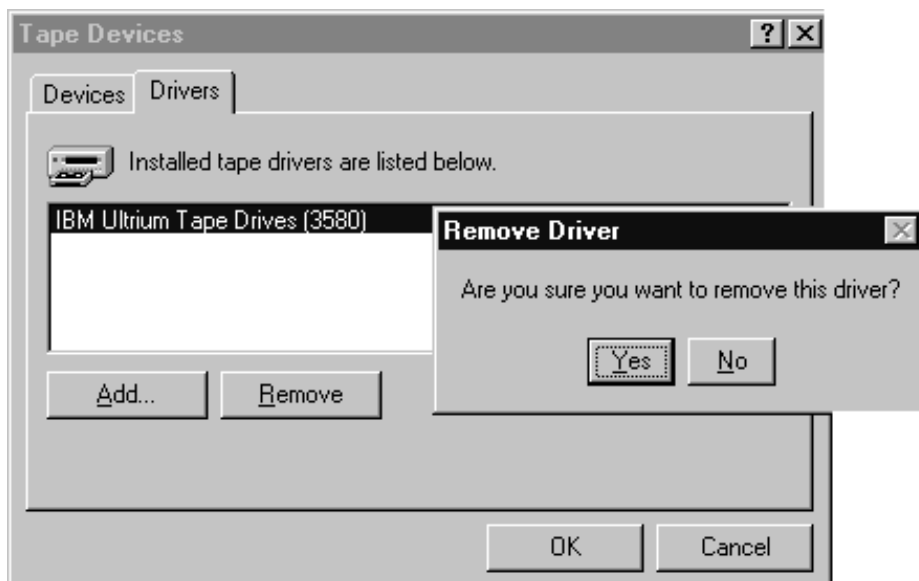

Figure 17. Remove Driver Menu
5. Highlight **IBM Ultrium Device Driver**, then click **Remove**. When you see the message **Are you sure you want to remove this driver?**, click **Yes**. See Figure 17.